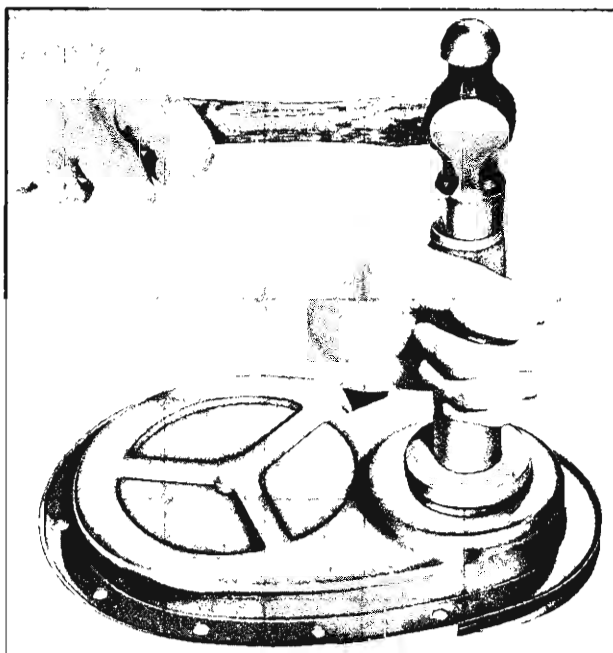

Fig. 144—Installing Oil Seal
2. Install new seal so that open end of the seal is toward the inside of cover and drive it into position with Tool J-0996 (fig. 144).